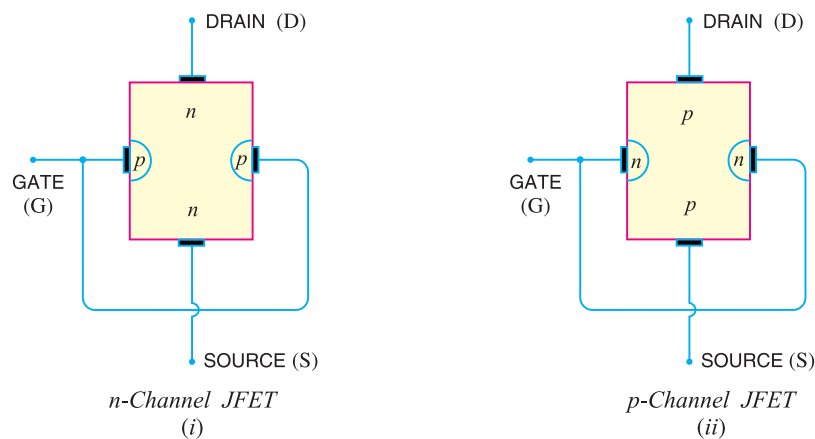

Fig. 19.1
Constructional details. A *JFET* consists of a *p*-type or *n*-type silicon bar containing two *pn* junctions at the sides as shown in Fig.19.1. The bar forms the conducting channel for the charge carriers. If the bar is of *n*-type, it is called *n-channel JFET* as shown in Fig. 19.1 (i) and if the bar is of *p*-type, it is called a *p-channel JFET* as shown in Fig. 19.1 (ii). The two *pn* junctions forming diodes are connected **internally* and a common terminal called *gate* is taken out. Other terminals are *source* and *drain* taken out from the bar as shown. Thus a *JFET* has essentially three terminals *viz.*, *gate* (*G*), *source* (*S*) and *drain* (*D*).
* It would seem from Fig. 19.1 that there are three doped material regions. However, this is not the case. The gate material *surrounds* the channel in the same manner as a belt surrounding your waist.